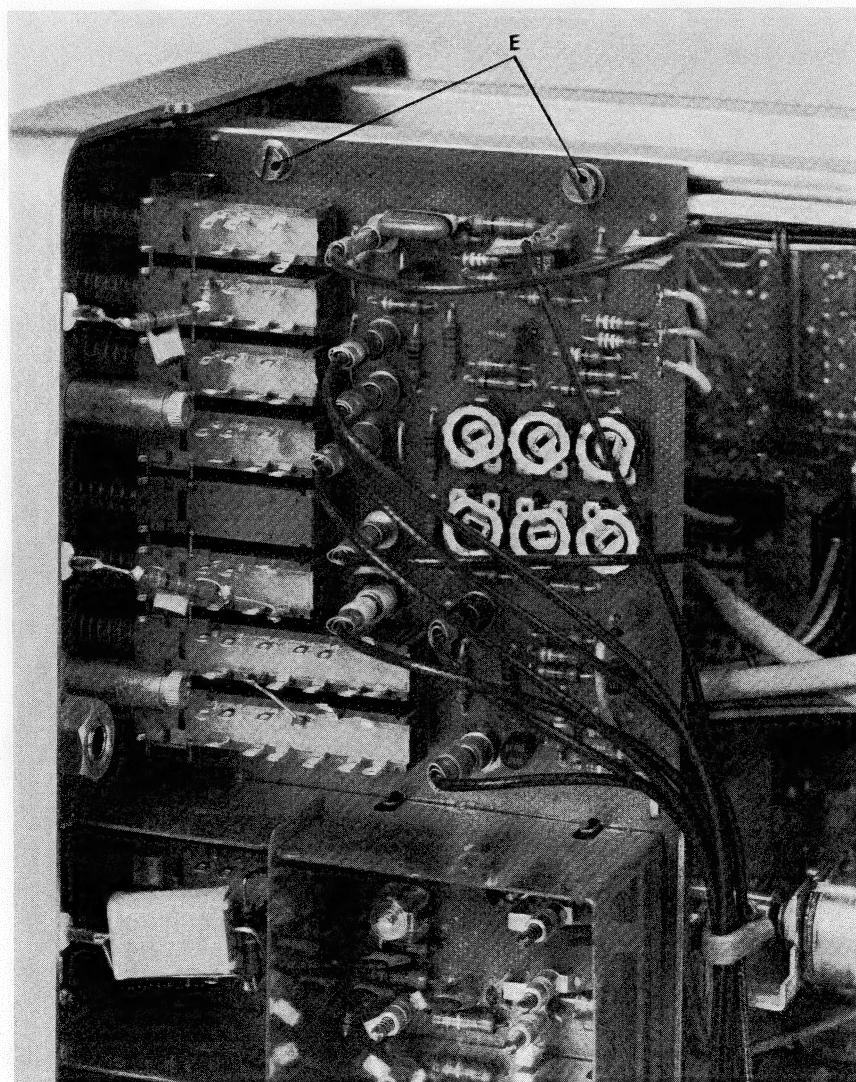

Fig. 3.7 Removing the front assembly (screws E)
- Remove the two screws E that hold the attenuator to the frame bar (Fig. 3.7)